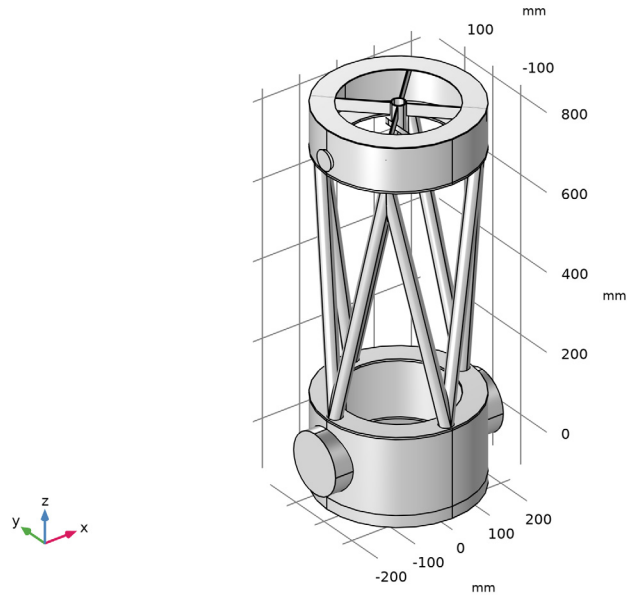
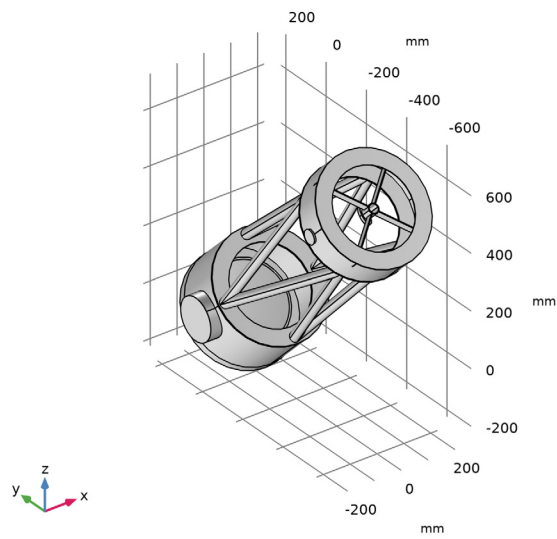

Figure 3: The Newtonian Telescope Structural Analysis geometry sequence.
Figure 4: The geometry sequence at an inclination of 45.0° .
After insertion, the geometry will look like Figure 3. After adjusting the parameter (θ) defining the telescope inclination to 45.0° , the geometry will look like Figure 4.
- 8 Click the  **Orthographic Projection** button in the **Graphics** toolbar. Compare the resulting geometry to Figure 3. In the following steps, change the telescope inclination to 45 degrees.
In the **Home** toolbar, click  **Build All**. Compare the resulting geometry to Figure 4.